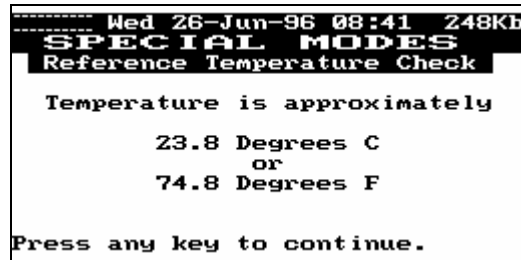

Figure 19
- SM10** Select “**3--Measure Internal Temperature**” and press **[ENTER]**. The screen will display the screen in figure 19 below.